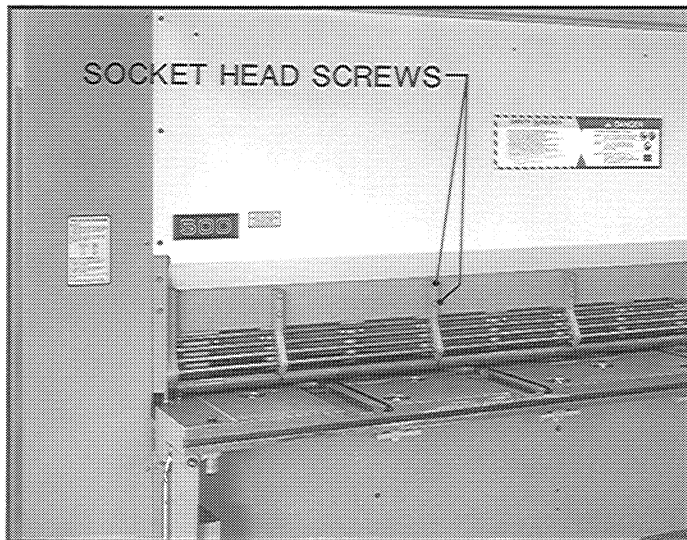

FIGURE 9-21 - Awareness barrier
2. **500, 750 Series** (Refer to Figure 9-21):